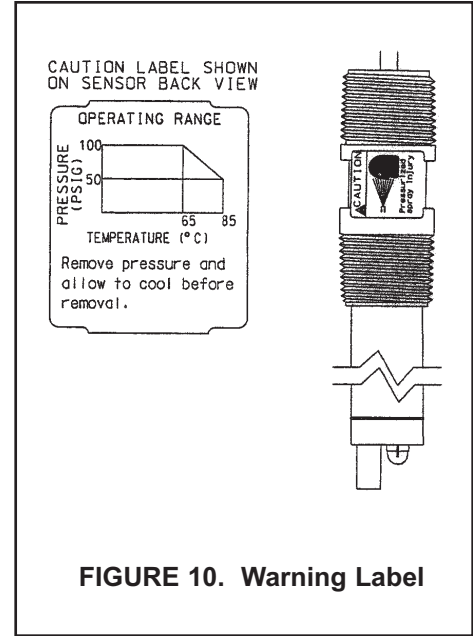

FIGURE 10. Warning Label
7.0 WIRING. The Model 399 has an optional built-in preamplifier and comes standard with a shielded cable or coax cable. The cable should be handled carefully and kept dry and free of corrosive chemicals at all times. Extreme care should be used to prevent it from being twisted, damaged or scraped by rough, sharp edges or surfaces. The cable is supplied undressed. Please refer to Figures 10 through 28 or the applicable analyzer/transmitter instruction manual for electrical connections.